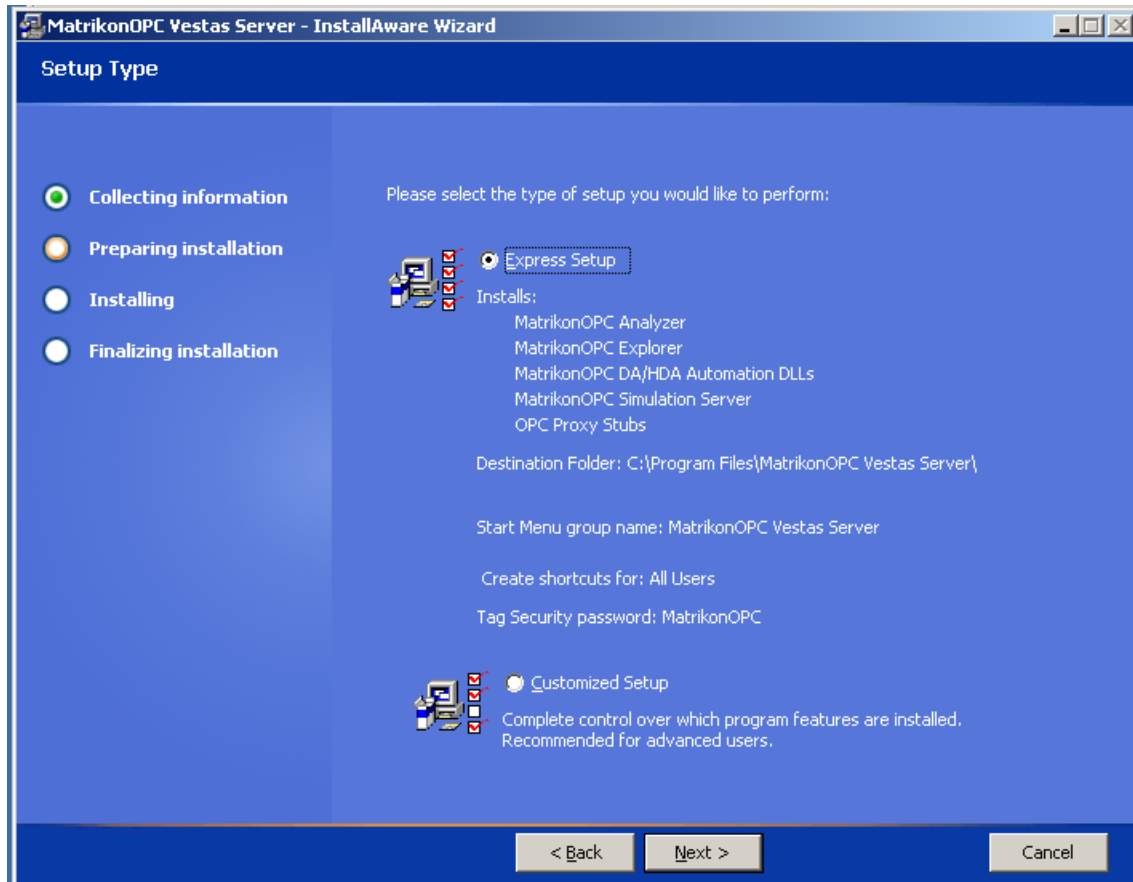

Figure 61 - Setup Type Screen
8. Click on the **Next** button. The **Setup Type** screen (Figure 61) appears.